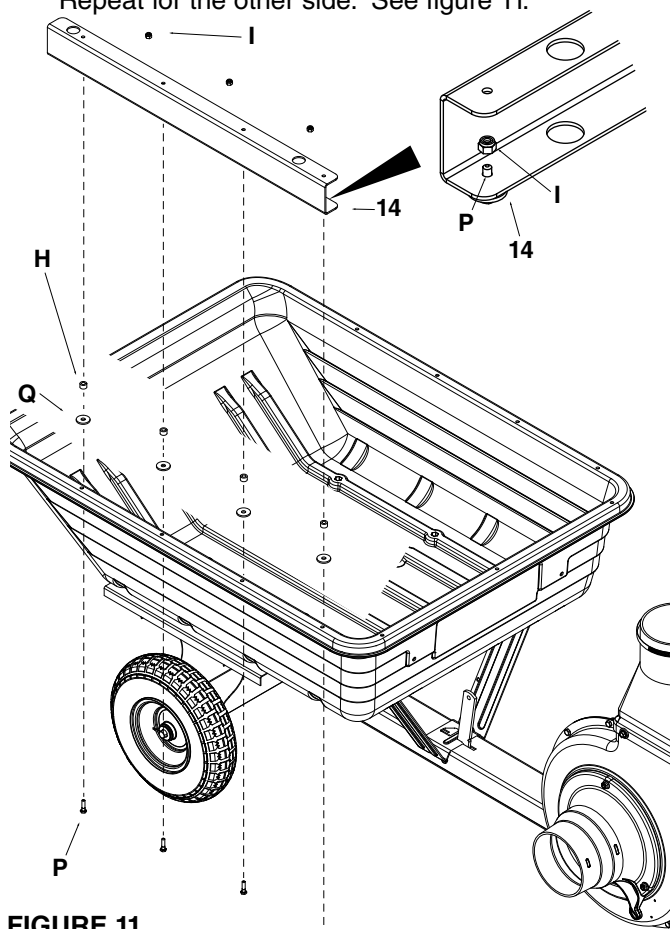

FIGURE 11
- Insert four 1/4" x 1" bolts (P) upwards through the holes in the side of the cart bed. Slide on a washer (Q) and spacer (H) onto each bolt. Attach a side rail (14) with the opening towards the inside of the cart, small hole towards the front and larger hole towards the back and secure with a 1/4" nylock nut (I). Repeat for the other side. See figure 11.